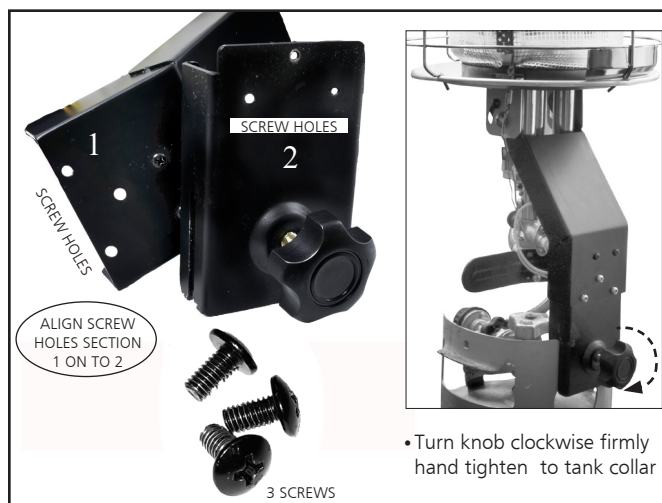
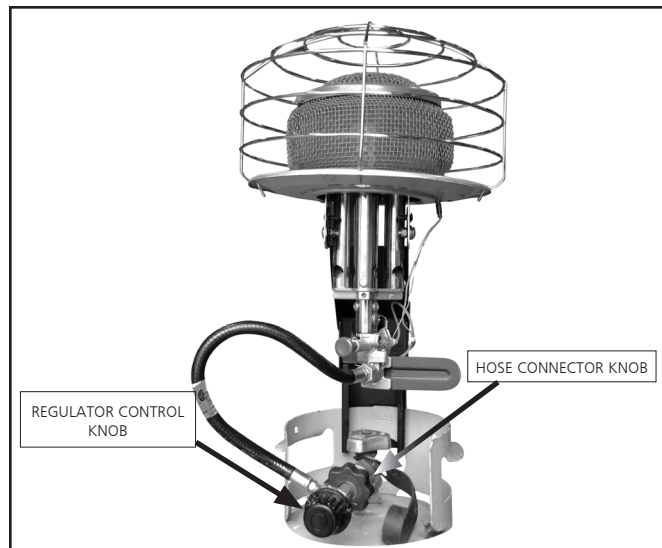

Figure 1
Figure 2
4. Attach Tank collar(Figure 1.)
- Screw the tank collar pieces together using the (3) packaged screws.
5. Make sure heater regulator is in the “OFF” position. Insert hose connector into tank’s valve and turn knob (counter clock-wise) firmly hand tighten. Do not overtighten. (Figure 2)